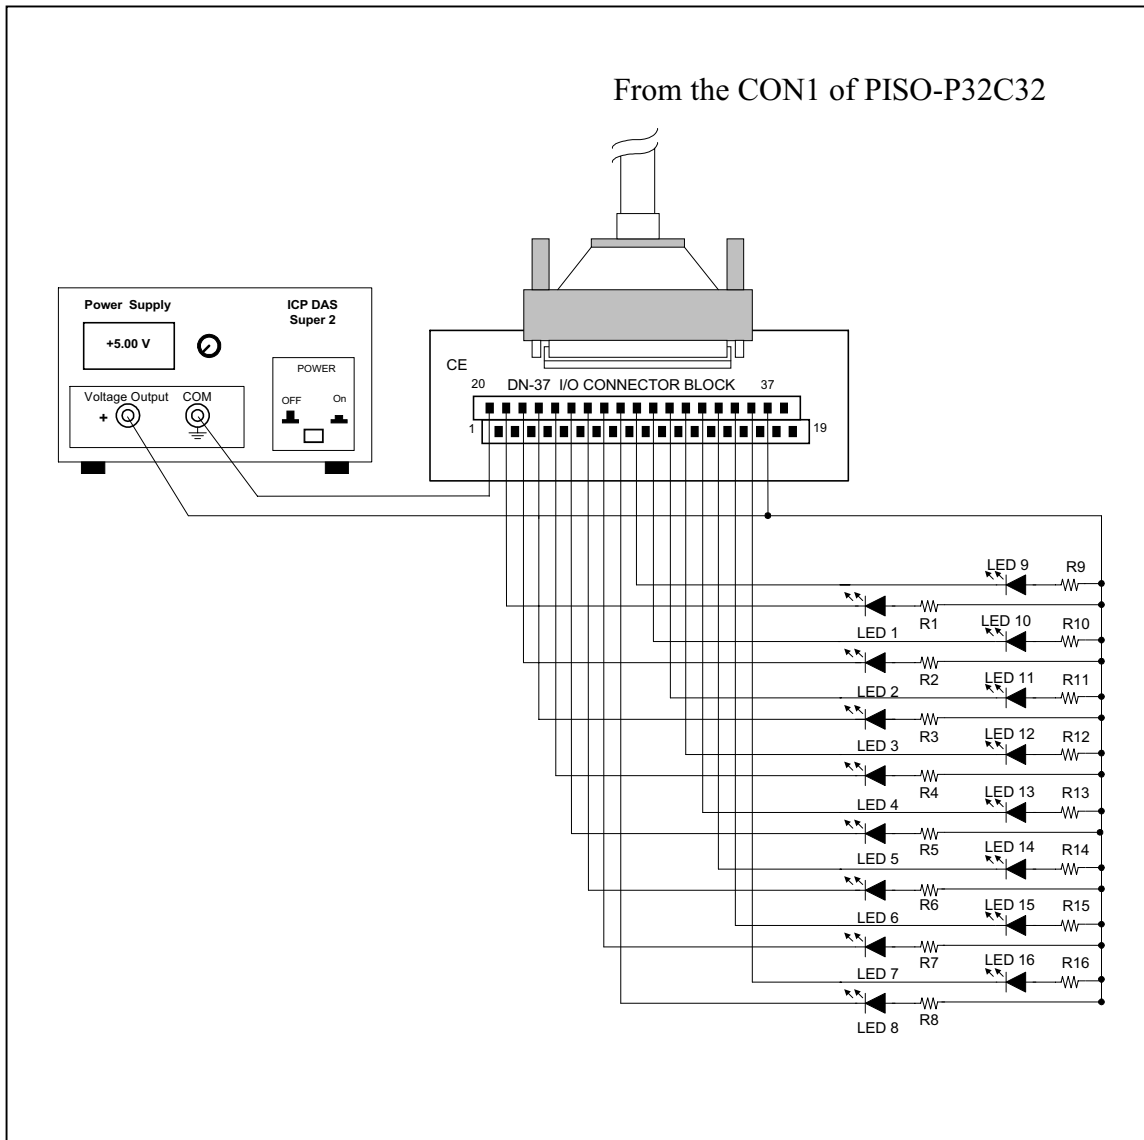

Figure 4-1-2. The circuit diagram of external device 1 for the digital outputs of PISO-P32C32
- The circuit diagram of external device 1: Refer to Figure 4-1-2